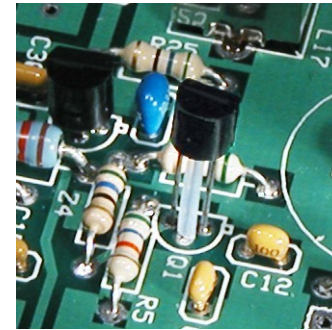

Figure 31. Installing Q1 with Teflon Spacer.
- __C13, .047 μ F (473) \Rightarrow __C12, 10 pF (100)
- __C14, 22 pF (220)
- Install transistor Q1 (MPS918) near U2 so that the Teflon tubing acts as a spacer to hold the transistor above the PCB. One end of the tubing should contact the bottom of Q1's case and the other end should rest against the top of the circuit PCB (see Figure 31).